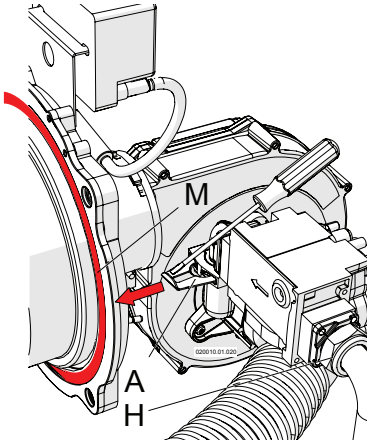
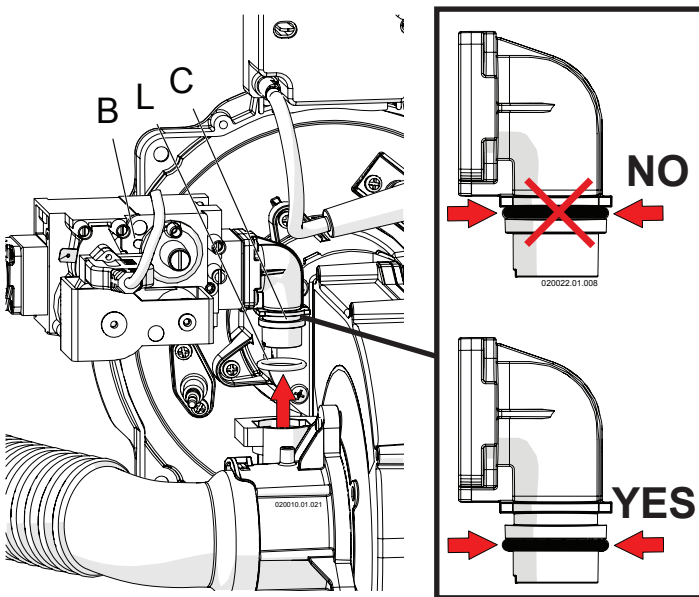

Figure 13-2 - Dismantling gas valve
Figure 13-3 - Raising gas valve
- 4.- Undo junction "H" in Figure 13-2;
- 5.- With the aid of a screwdriver, remove fork "A" in Figure 13-2;
- 6.- Remove the gas valve with junction "C" as in Figure 13-3 (paying attention to the OR "L" in Figure 13-3);
- 8.- Replace the gas valve paying attention to the correct position of the OR "L" in Figure 13-3 and to the joint gasket "H" in Figure 13-2;
- 10.- Tighten joint "H" in Figure 13-2;
- 12.- Check that there are no leaks from joint "H" in Figure 13-2;